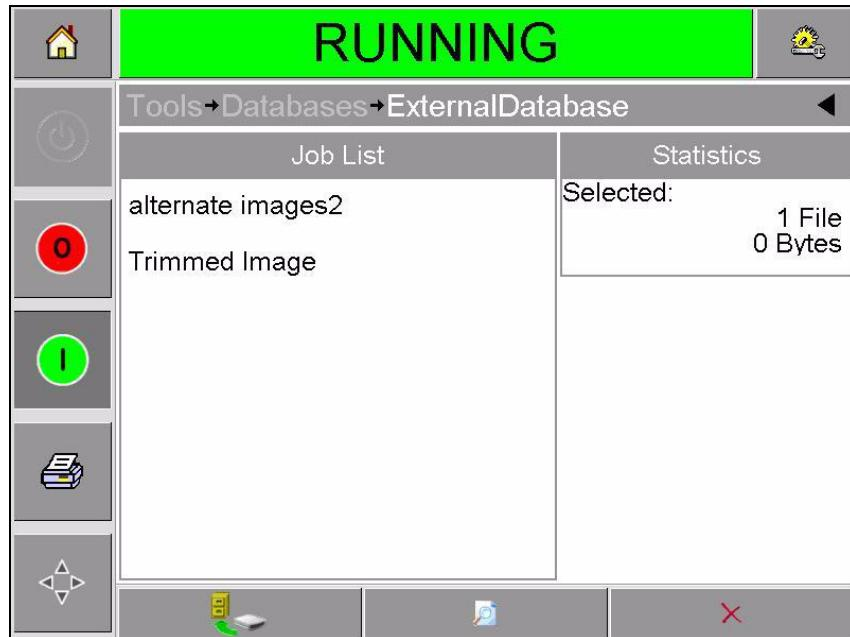

Figure 4-28: Jobs List on USB Device
- 4 Touch External Database button to view all the jobs in the USB device (Figure 4-28).